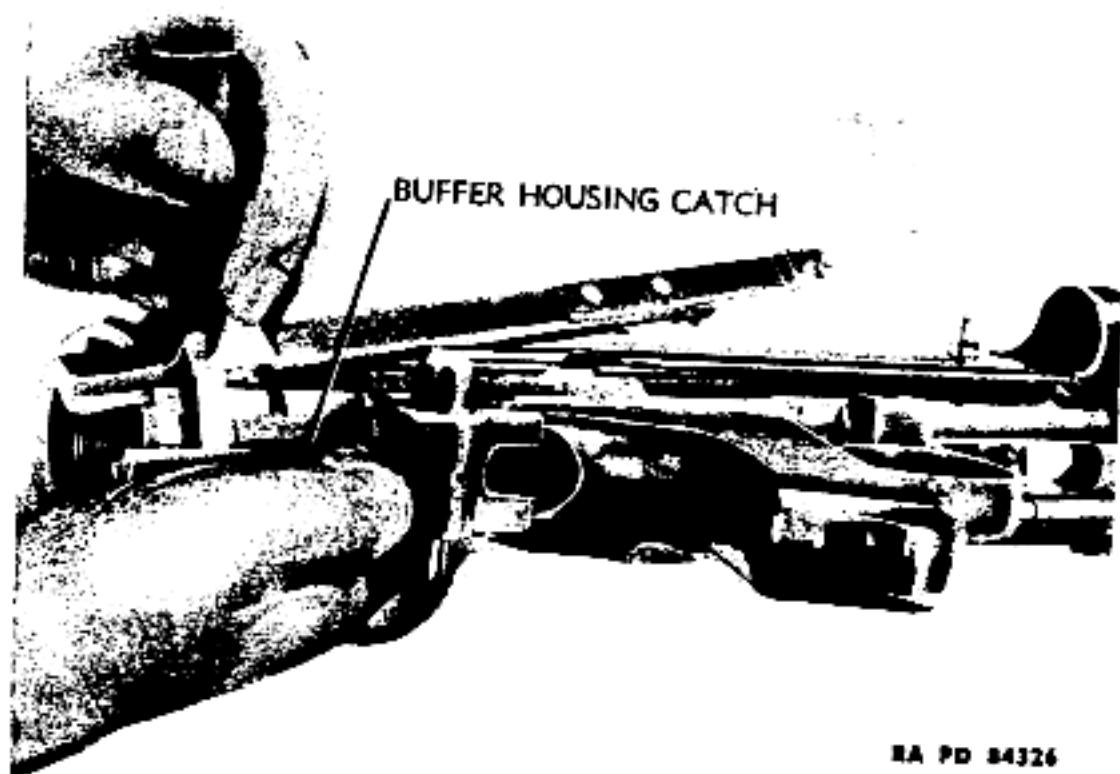

Figure 50 — Removal of Cocking Handle
(2) Press the buffer housing catch and remove the cocking handle (fig. 50).